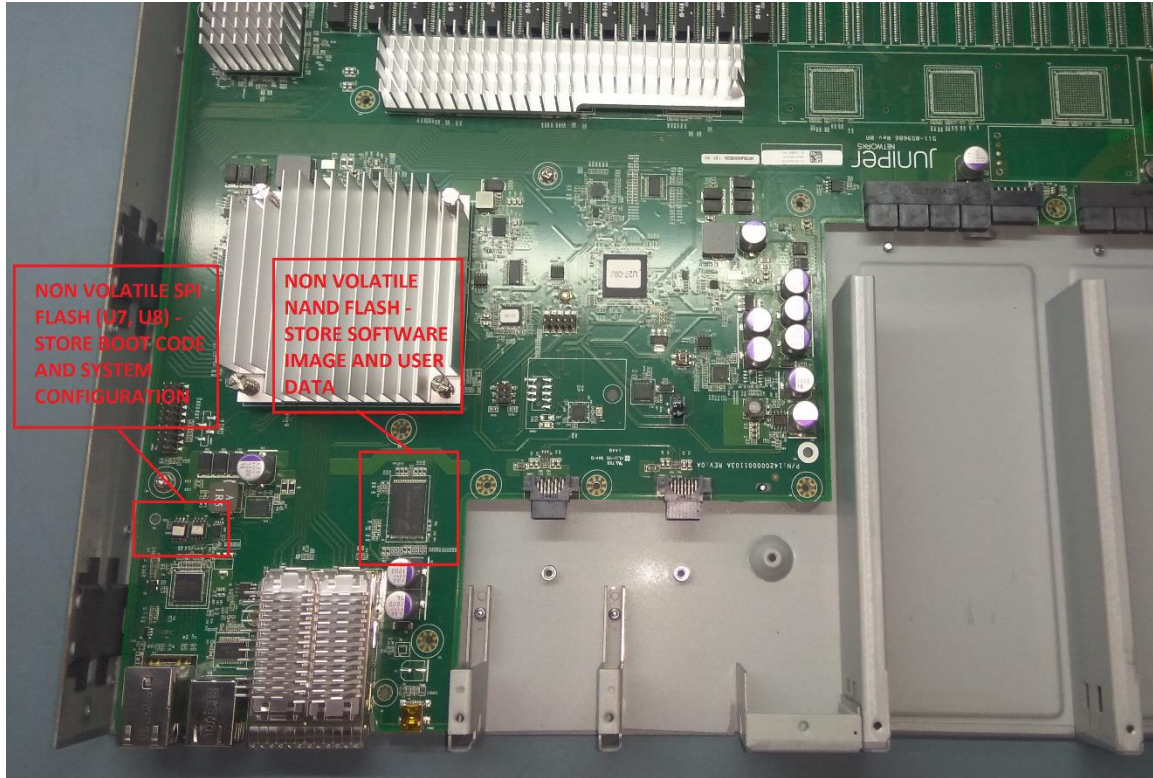

Figure 3-6: Locate NV storage
7. Locate NV storage (Figure 3-6).